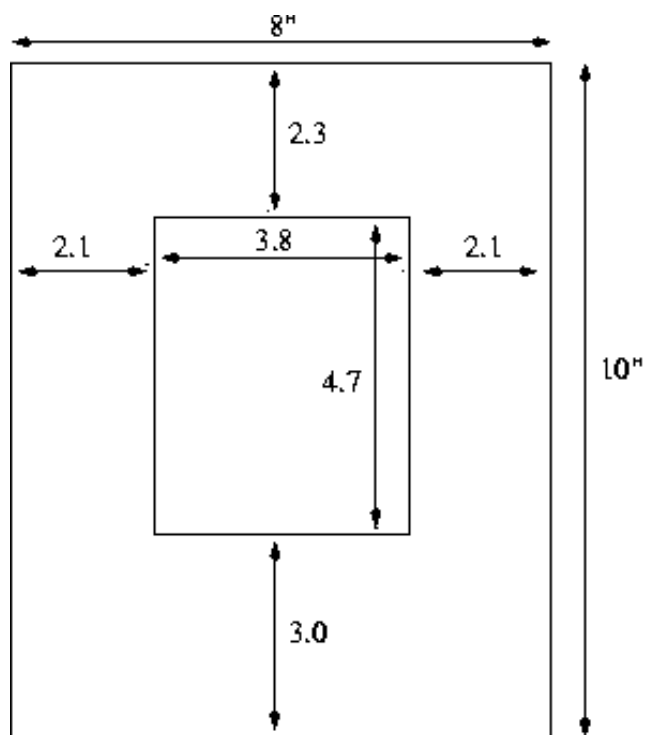

Figure 2: Detailed layout of an 8×10 mat for a 4×5 image.
3. Determine the outside and border dimensions. Always work on the backside of the window mat. Using the rules described above lay out the back of the mat lightly with a pencil (Fig. 2).